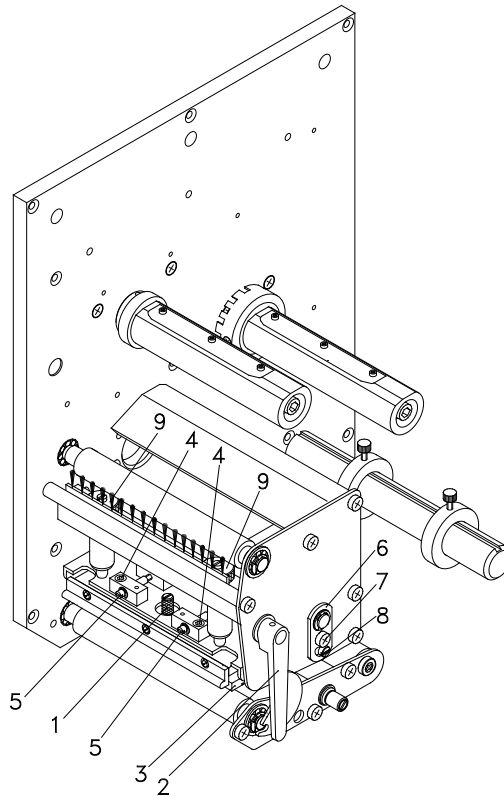

Figure 28
1. Loosen the screws (4, Figure 28) with a hexagon key by approx. $\frac{1}{4}$ rotations.
2. Adjust the parallelism with the adjusting screws (5, Figure 28).
4. Tighten again screws (4, Figure 28).
1. Loosen screw (7, Figure 28) with a screwdriver by approx. $\frac{1}{4}$ rotations.
2. In order to achieve a pressure balance, turn the excentric bolt (8, Figure 28) as long as the printing result comes up to your full expectation.
3. Tighten again screw (7, Figure 28).
1. Turn pressure screws (9, Figure 28) to change the pressure of printhead.
2. Turning the pressure screws (9, Figure 28) as far as they will go in clockwise direction results in a pressure increase of 10N in contrast to the factory setting.
3. Turning the pressure screws (9, Figure 28) exactly one rotation from the right stop position counter clockwise results in the factory settings.